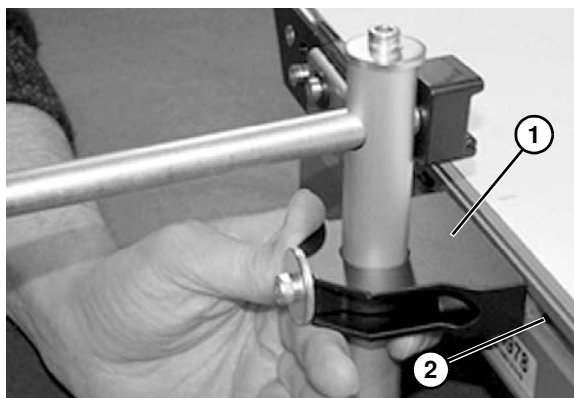

Figure 19
1. Install guide bracket assembly (**Figure 19, item 1**) into the conveyor t-slot (**Figure 19, item 2**).